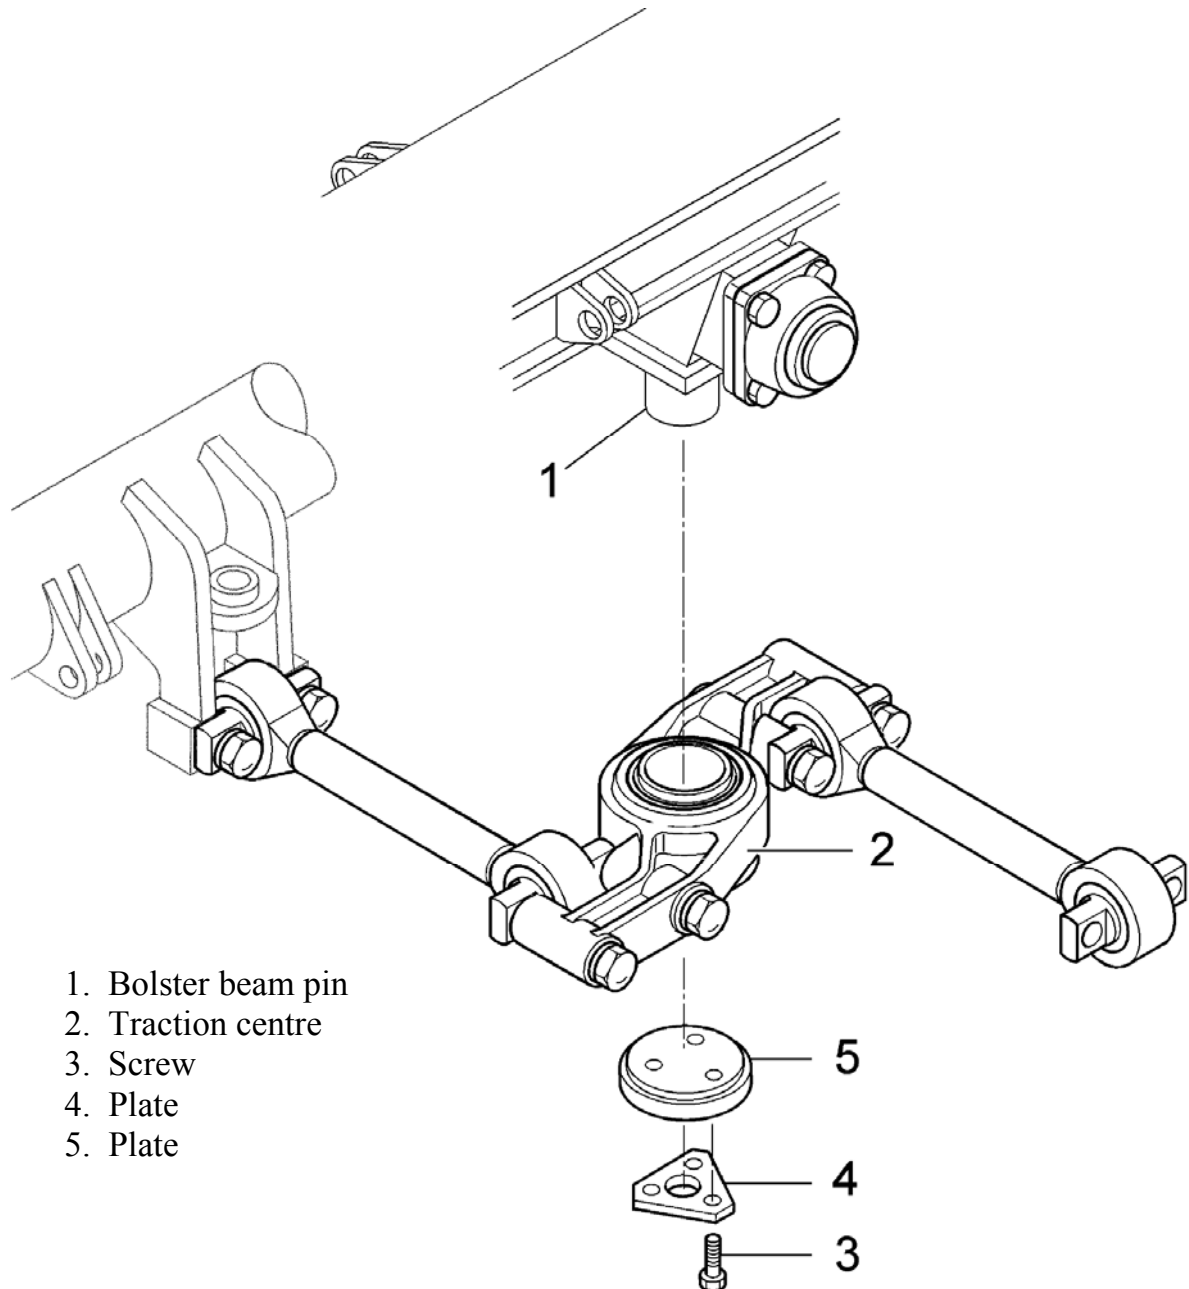

FIG. 4.23 DISCONNECTION FROM THE TRACTION CENTRE
After pressing the bolster beam, as described in para. 4.3.1.2, disconnect the bolster beam central pin (1 - FIG. 4.23) from the traction centre (2): extract the screws (3) which fix the plates (4) and (5).